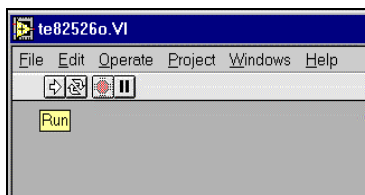

Figure 1
- 3.2. Click on the white arrow in the upper left corner of screen to run the test program. See Figure 1.